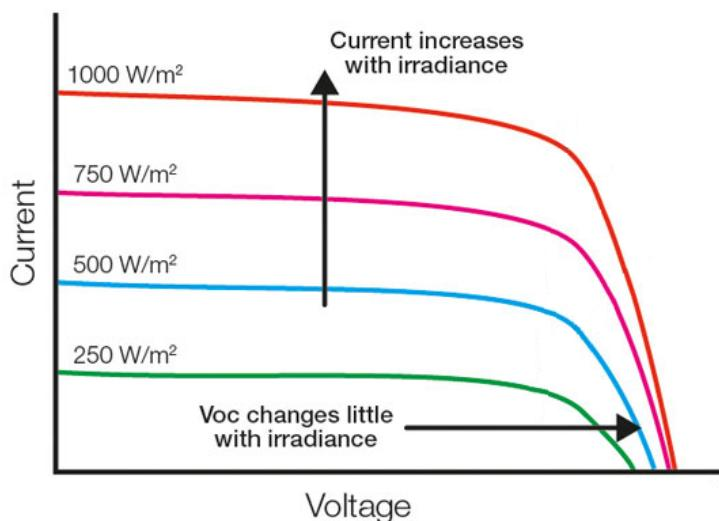

Figure 3.5. Effect of irradiation on PV cell's V-I characteristic
**B.4** Knowing that the effect of irradiation on PV cell's V-I characteristic is as shown in Figure 3.5, explain whether or not your measured short circuit currents (currents at  $v = 0 \text{ V}$ ) and open circuit voltages (voltages at  $i = 0 \text{ A}$ ) are consistent with this behaviour6.